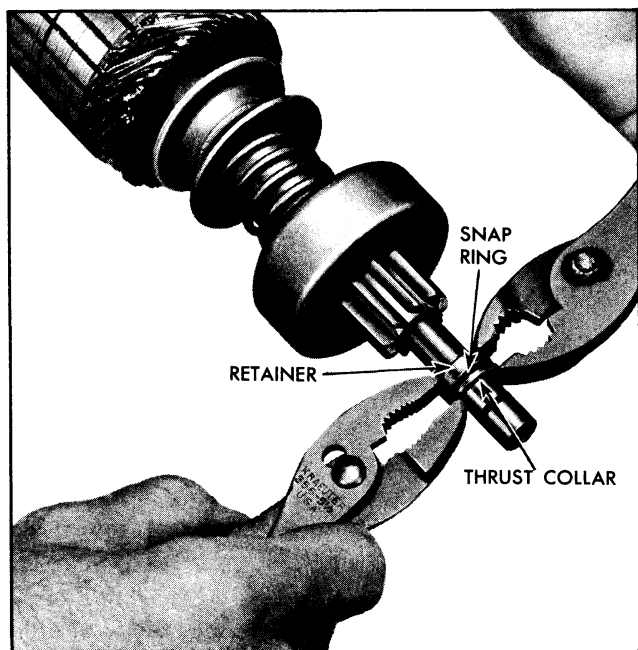

Fig. 11-12 Forcing Retainer Over Snap Ring
- e. Assemble thrust collar on shaft with shoulder next to snap ring (Fig. 11-12).
- f. Place armature flat on work bench, and position retainer and thrust collar next to snap ring. Then, using two pairs of pliers at same time (one pair on either side of shaft), grip retainer and thrust collar and squeeze until retainer is forced over snap ring (Fig. 11-12).